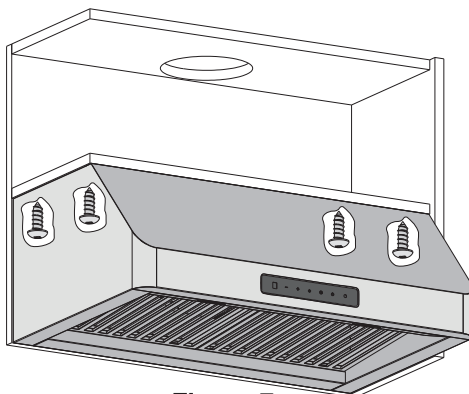

Figure 7
- Attach the outlet to the hood, then install the cooker hood below the cupboard. Tighten the range hood with enclosed 4 pcs ST4 × 18 screws. See figure 7.